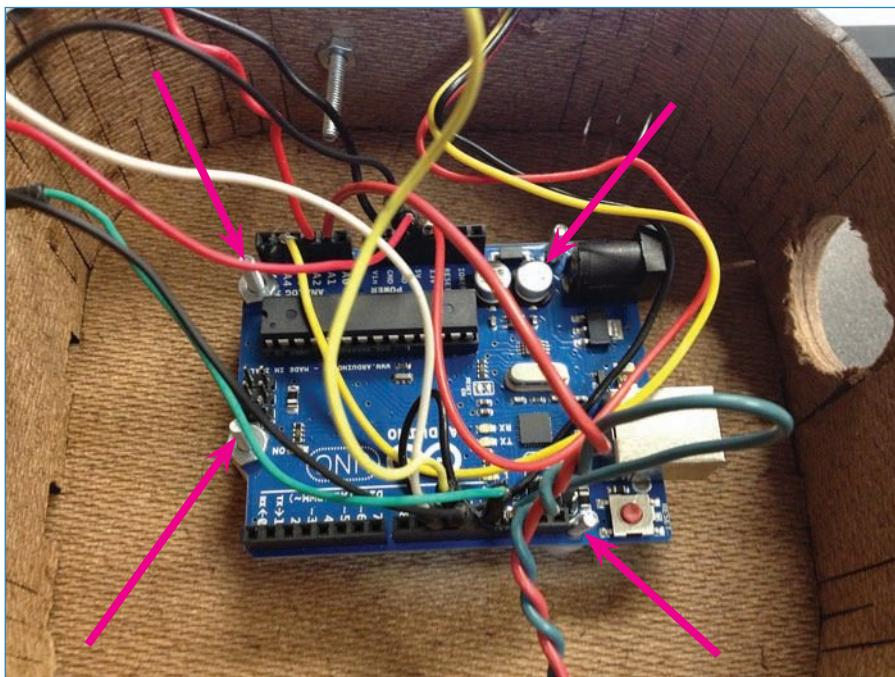

FIGURE 6.19 The Arduino, all wired up!
6. Connect the Arduino to the box—After you attach the globe and wire up the ShiftBrite, you attach and wire up the Arduino. I connected the Arduino to the box using #4 bolts threaded through holes I drilled in the bottom panel, with 3/8" plastic standoffs. See Figure 6.19.